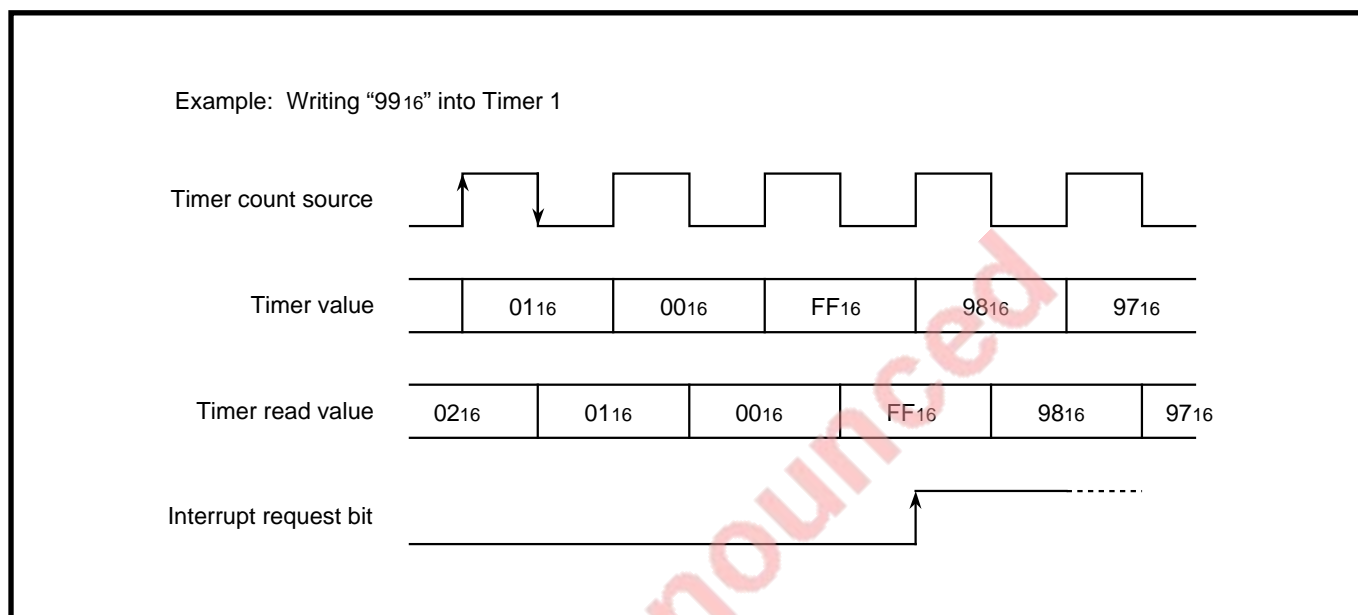

Fig. 1.12.10 Relation between timer value change timing and read value change timing
- (1) The contents of the Timer 12 mode register (T12M: Address 00F816) and the Timer 34 mode register (T34M: Address 00F916) become "0016" at reset and each timer performs a count operation.
- (2) Figure 1.12.10 shows the relation between Timer value change timing and read value change timing. The Timer value changes at the rise of the count source, while the read value changes at the fall of the count source. Accordingly, the read value may be larger than the real timer value by "1."